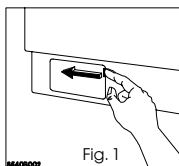
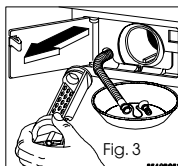

Fig. 1
Fig. 3
1. Unpack the appliance. Tilt the appliance backwards, give to one of the back corners a quarter turn. The appliance comes free naturally out the polystyrene basis. Take away this basis (fig.1).
3. On the back part and with a spanner, remove the two red loosened spacers (A) (fig.3).
- open the flapdoor covering the filter by pressing the left hand side of the filter door (fig. 1 & 2). Place a container underneath to catch any spillage. According to the models, complete the draining of the appliance by taking away the yellow cap and by extracting the little hose located on the left of the filter (fig. 3).